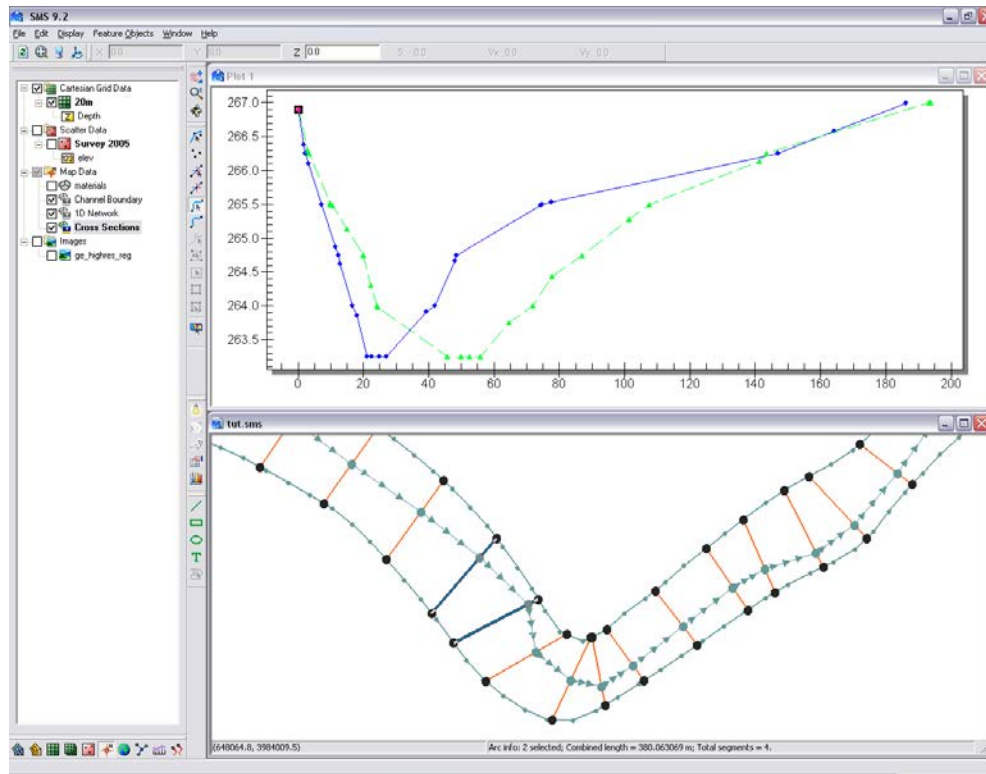

Figure 12 TUFLOW Cross Section Plot
4. Holding Shift select several other cross sections. The last arc selected will be in blue while the other arcs will be in green. This way you can compare how each cross sections compares to others as in Figure 12.